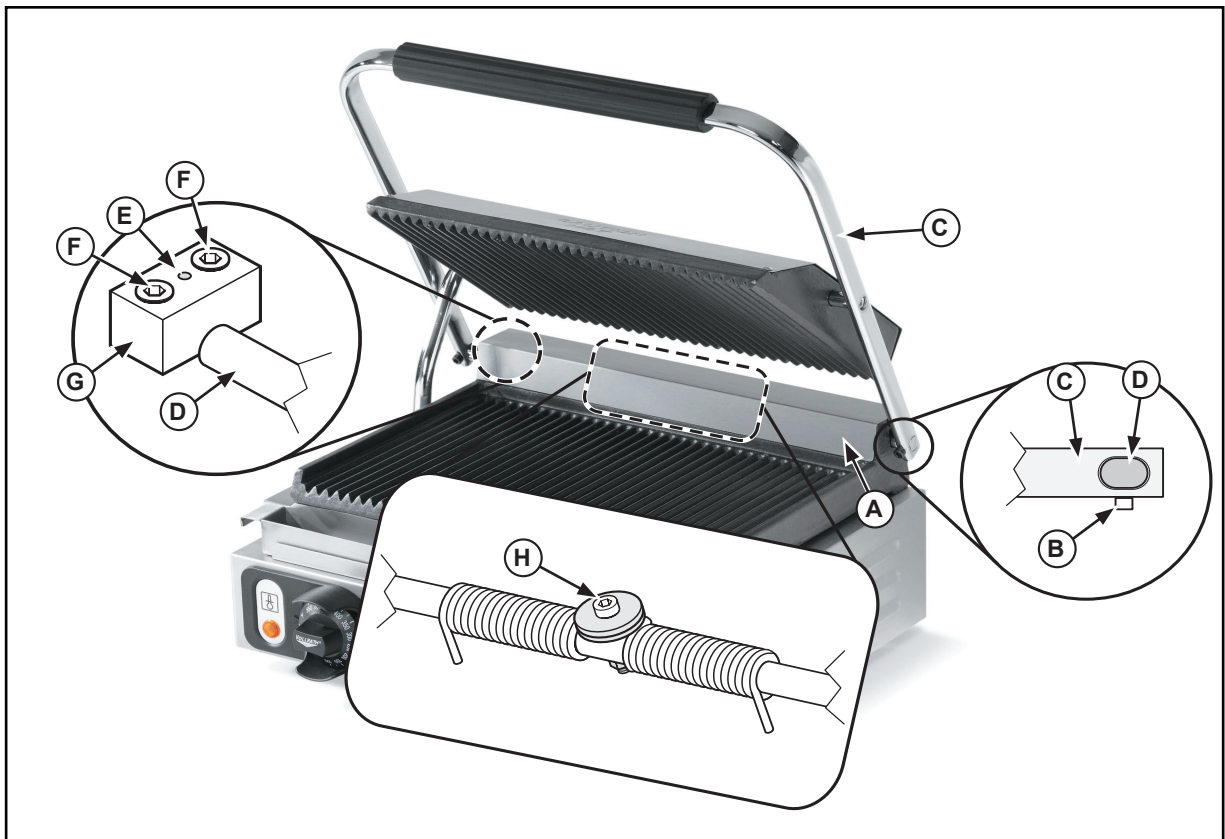

Figure 1. Handle and Hinge Components.
1. Tighten the bolt (B) to secure the rear axle shaft (D) to the handle (C). See Figure 1. Repeat on the other side.
2. Remove the hinge axle cover (A).
3. Apply a small amount of food grade grease to the hole (E) in the brass saddle clamp (G).
4. Tighten the bolts (F) fully.
5. Loosen each of the bolts (F) 1/4 of a turn and check the resistance of the cover. Do not loosen the bolts (F) more than 1-1/2 turns.
6. Tighten the capscrew (H) to increase the return spring pressure.
8. Install the hinge axle cover (A) securing with original hardware.